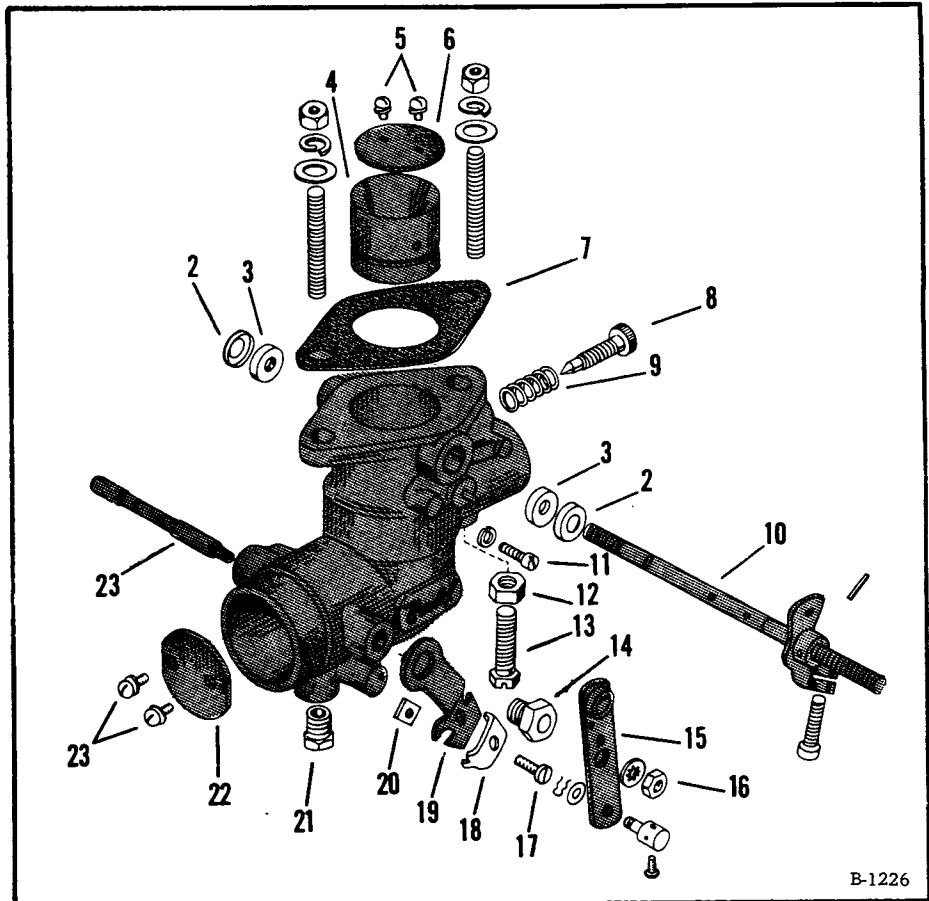

Fig. 71 LP Carburetor Breakdown
(1) Mark the throttle plate (Fig. 71, Item 6) and main body for correct reassembly of the throttle plate. Remove the throttle plate screws (Item 5) and throttle plate.
(2) Remove the throttle shaft and lever assembly (Item 10).
(3) Remove the shaft seals (Item 3) and seal retainers (Item 2) from both sides of the main body.
(4) Remove the venturi retaining screw (Item 11) and remove the venturi (Item 4) from the main body.
(5) Remove the idle needle valve (Item 8) and idle needle valve spring (Item 9) from the main body.
(6) Invert the carburetor, loosen the adjusting nut (Item 12) and remove the main adjusting screw (Item 13) with the adjusting nut.
(7) Remove the screw plug (Item 21).
(8) Mark the choke plate (Item 22) and air intake for correct reassembly of the choke plate. Remove the choke plate screws (Item 5) and choke plate. Remove the choke shaft nut (Item 16), choke lever (Item 15), choke shaft plug (Item 25) and choke shaft (Item 23).
(9) Mark the location of the choke cable bracket (Item 19). Remove the choke bracket screw (Item 14).